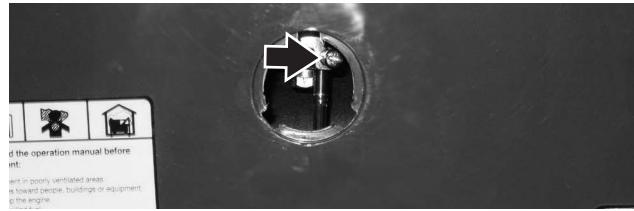

Figure 47 – Float Bowl Drain Screw
3. Loosen the float bowl drain screw until fuel is seen draining from the float bowl (see Figure 47).